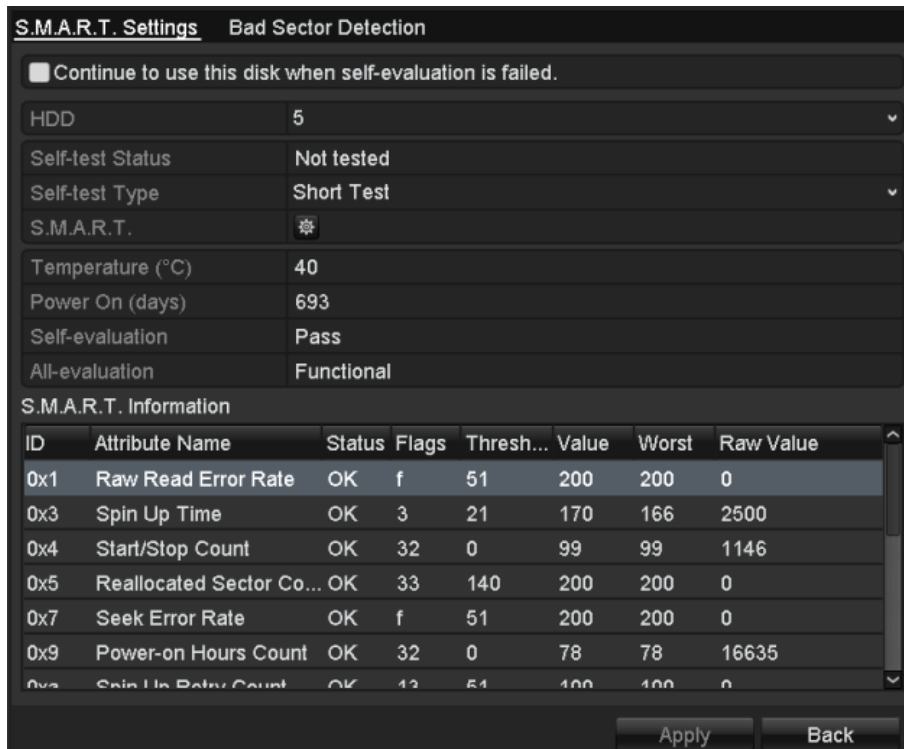

Figure 13. 21 S.M.A.R.T. Settings Interface
2. Select the HDD to view its S.M.A.R.T. information list, as shown in Figure 13. 21.